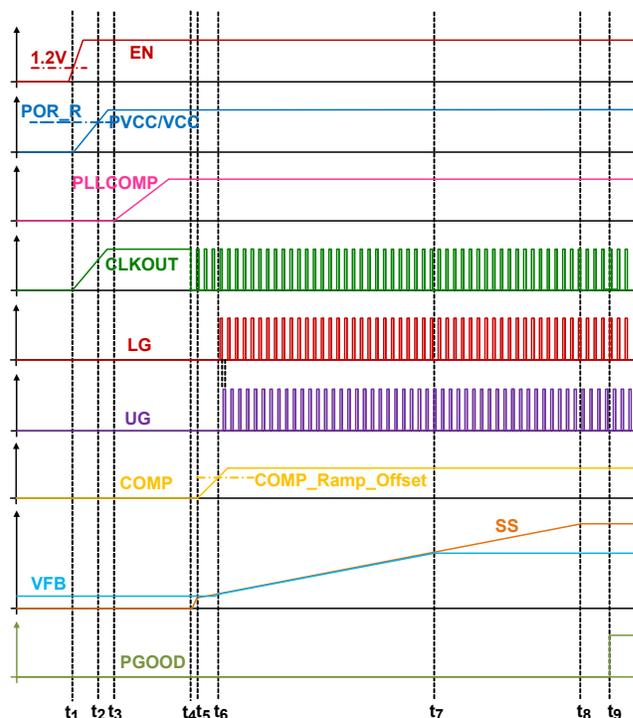

FIGURE 58. CIRCUIT INITIALIZATION AND SOFT-START
- There is no limit for the minimum voltage on the TRACK pin, but note the lower reference voltage and the lower voltage feedback regulation accuracy. Note the SS\_DONE signal is checking  $V_{REF\_TRK} \geq 0.3V$  as one of the conditions (refer to Figure 58 on page 29 and  $t_g$ - $t_d$  description on page 30). Also, for the boost converter, the regulated output minimum voltage is usually the input voltage minus the upper MOSFET's body diode drop, in which case, the corresponding voltage at FB voltage is the minimum effective voltage for the  $V_{REF\_TRK}$ .
Before converter initialization, the EN pin voltage needs to be higher than its rising threshold and the PVCC/VCC pin needs to be higher than the rising POR threshold. When these conditions are met, the controller begins initialization and soft-start. Figure 58 shows the ISL78227 internal start-up timing diagram from the power-up to soft-start.
Assuming input voltage is applied to the VIN pin before  $t_1$  and VCC is connected to PVCC, as shown on Figure 58, the descriptions for start-up procedures are described in the following:
Diode emulation occurs during  $t_5$ - $t_8$  (on Figure 58 on page 29), regardless of the DE/PHDRP operating modes (Table 2).
As shown in Figure 3 on page 7, the ISL78227 monitors the VIN pin voltage divided by 48 (VIN/48) as the input voltage information. This fault detection is active at the beginning of soft-start (t5 as shown in Figure 58 on page 29).
The ISL78227 monitors the FB pin voltage to detect if output overvoltage fault (VOUT\_OV) occurs. This fault detection is active at the beginning of soft-start (t5 as shown in the Figure 58 on page 29).